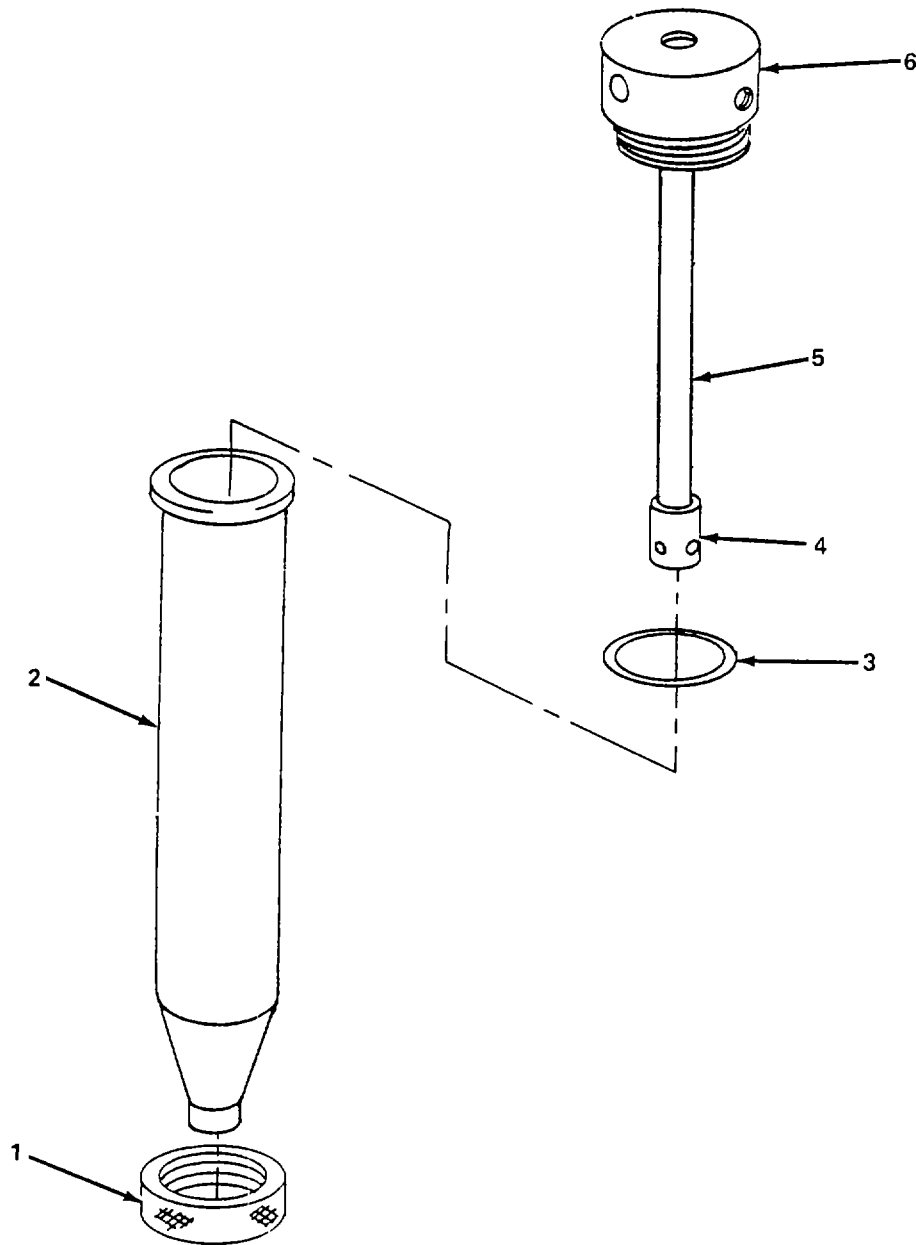

Figure 5-9. Second Stage Separator Assembly, Repair.
- (9) Apply teflon tape to pipe threads on fittings (16) and (17).
- (10) Install fitting (17).
- (11) Install fitting (16).
- (12) Install drain valve (14) and seal (15).
- (13) Install clamp (11) and secure with plate (10) and bolt (9).
- (14) Install safety valve (12) and seal (13).
- (15) Install separator (7) on compressor crankcase (8) and secure with strap (11), bolt (5) and nut (6).
- (16) Connect inlet tube (4) and tighten two connector nuts (3).
- (17) Connect discharge tube (2) and tighten two connector nuts (1).
b. Repair. (figure 5-9)**WARNING**